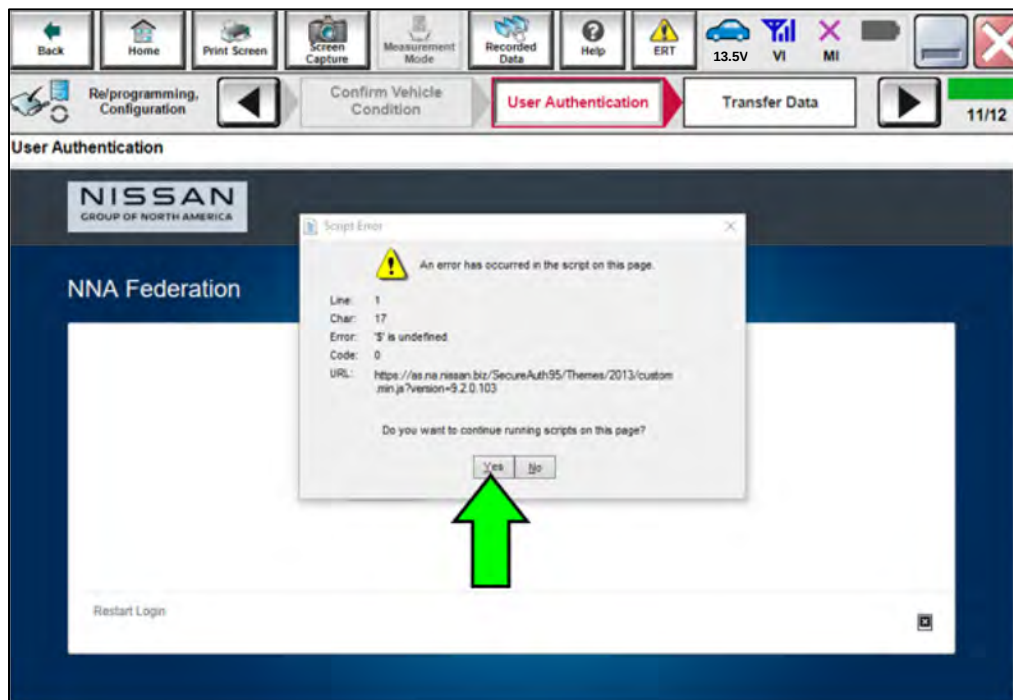

Figure 15
19. If the Script Error shown in Figure 15 is present, select **Yes**.